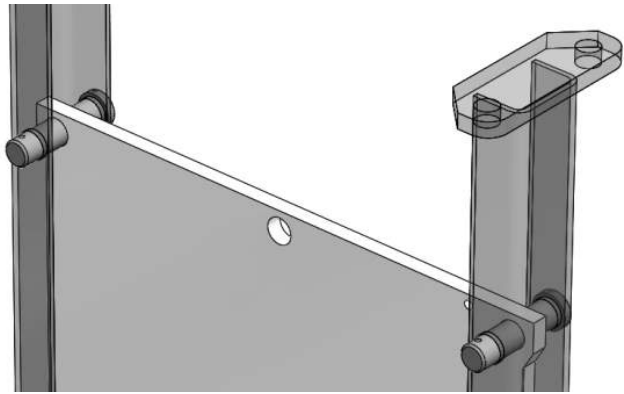

Figure 17. Stroke correctly adjusted.
3. Stroke is adjusted correctly if gate (2) can now be locked with the locking pins (13). Otherwise continue to the next step for stroke adjustment. See Figure 17.
4. Measure how much the gate (2) must be adjusted.
6. Remove retaining ring (17) from the clevis pin (16) and remove the clevis pin.
7. Push the gate (2) down to get space for the clevis (14) to turn.
8. Loosen the clevis locking screw (15)
9. Rotate the clevis (14) on the stem to adjust it up or down according the dimension measured above.
10. Re-install the clevis and test if the locking pins (13) fit in now. Repeat adjustment if pin does not fit in place. Continue to the next chapter if valve is adjusted correctly.